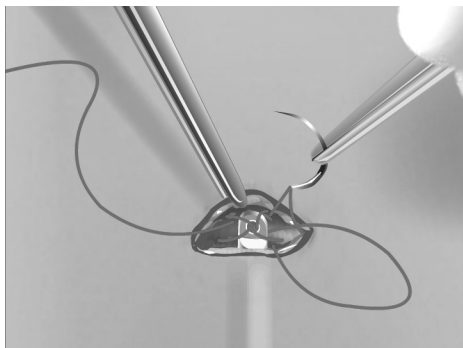

Figure 15. Anchoring the Distal Tip of the Subcutaneous Electrode
12. At the superior incision, secure the anchoring hole to the fascia using the pre-placed sutures from step 6 (Figure 15 Anchoring the Distal Tip of the Subcutaneous Electrode on page 41).